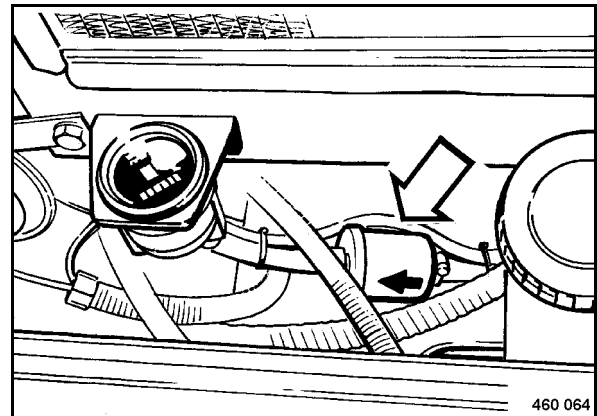

Fig. 103
- Loosen the hose clamp (Fig. 103).